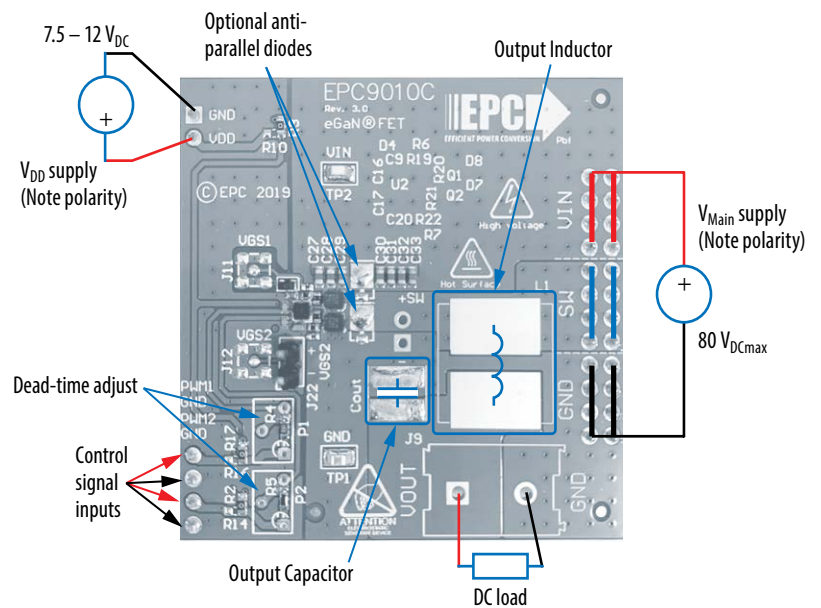
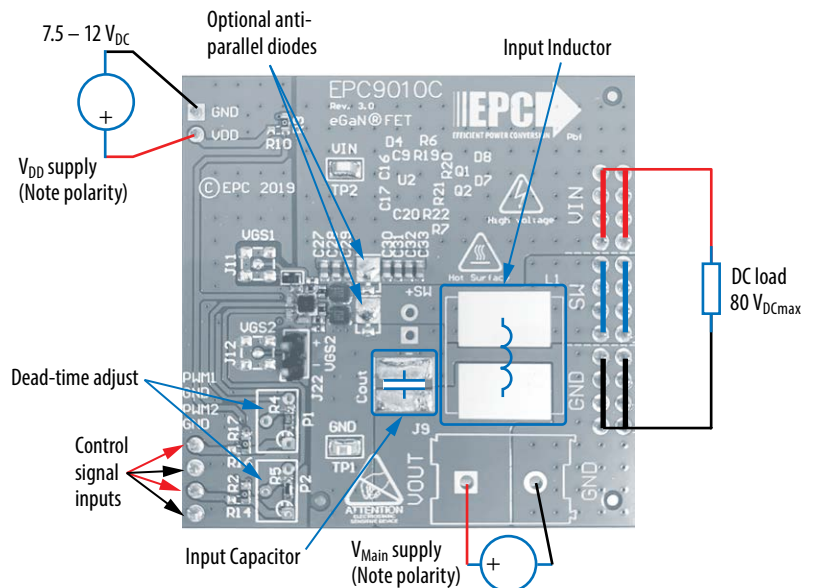

Figure 2: Buck configuration
Figure 3: Boost configuration
The half bridge development board EPC9010C is easy to set up as buck or boost converter. Refer to figure 2 for buck converter configuration and measurement setup, and figure 3 for boost converter setup, and follow the procedure below:
2. With power off, connect the switch node (SW) of the half bridge (J3, J4) to your circuit as required (half bridge configuration). Or use the provided pads for inductor (L_1) and output capacitors (C_{out}), as shown in figure 2.
1. The inductor (L_1) and input capacitors (labeled as C_{out}) can either be soldered onto the board, as shown in figure 3, or provided off board. Anti-parallel diodes can also be installed using the additional pads on the right side of the EPC2016C FETs.